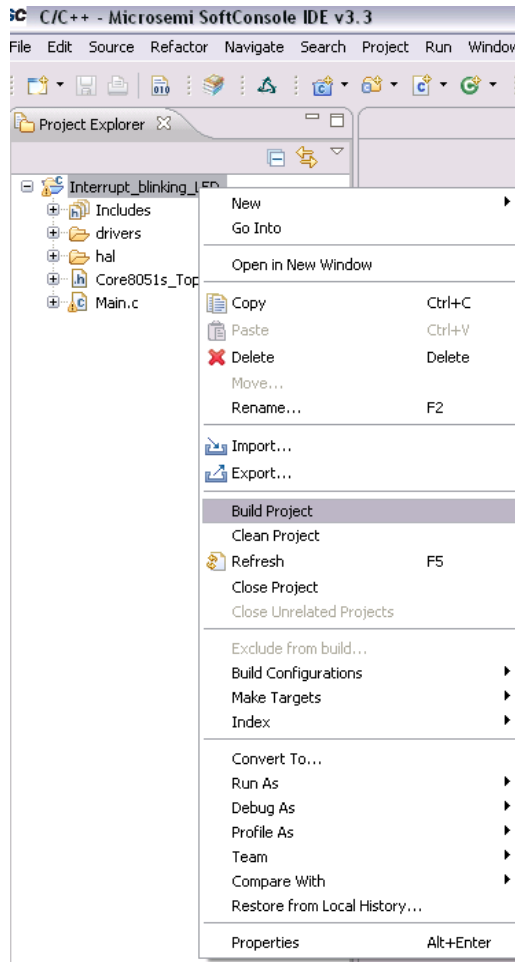

Figure 40 Build Project
7. The SoftConsole project is ready to build. Right-click the project and select **Build Project**, as shown in Figure 40.